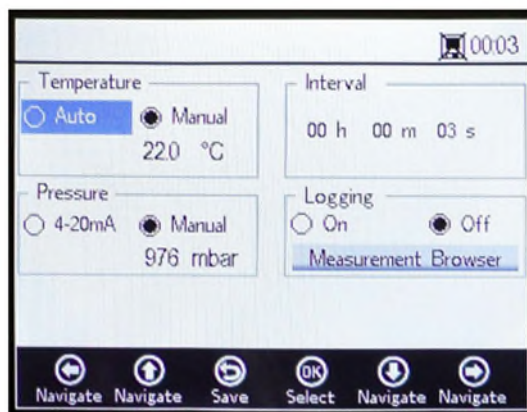

Figure 18. Measurement settings screen
2. Click **Yes** to stop the measurement in order to display the MEASUREMENT SETTINGS screen. Refer to Figure 18.